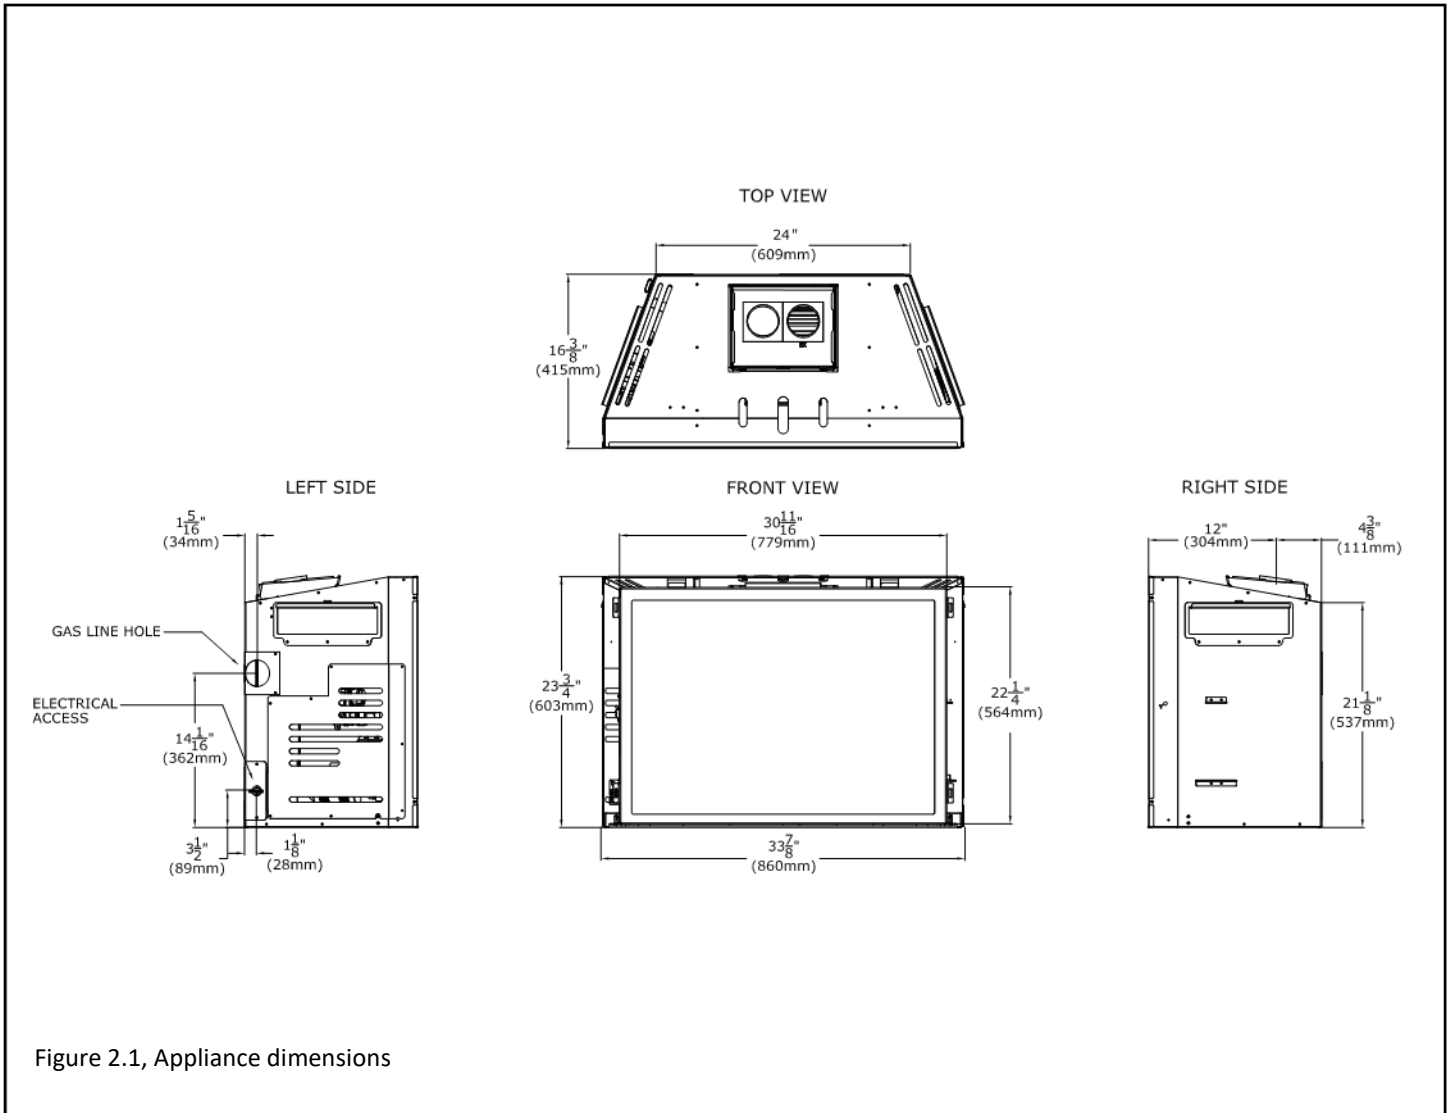

Figure 2.1, Appliance dimensions
- A gas line must be able to be installed to the fireplace insert. Please refer to Figure 2.1 on page 9. The gas line access hole is located on the left side of the insert.